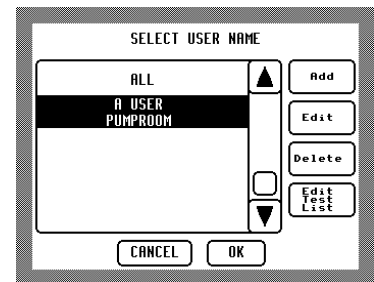

Fig 20 – Edit User List Screen
- Touch **System** ... **Edit User List**. The list of users will appear in the scroll box – see Fig 20 :-
- Touch **System** ... **Edit User List**. The list of users will appear in the scroll box (see Fig 20).